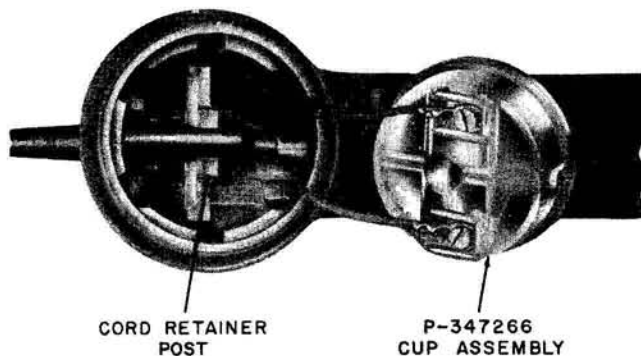
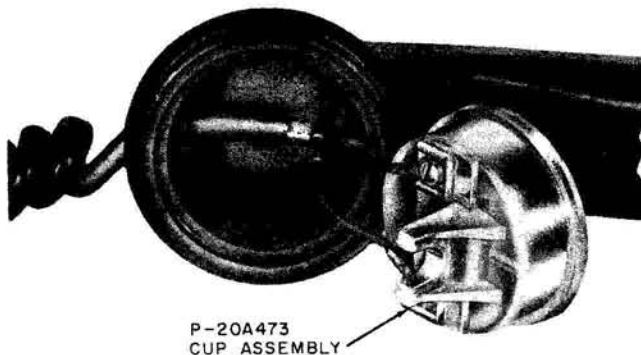

Fig. 6 — Early G3 Handset
Fig. 7 — Current G-type Handset
4.02 Early G-type handsets were equipped with cord retainer posts (Fig. 6). Current G-type handsets contain cord retainer posts molded on the transmitter cup (Fig. 7). These two transmitter cups are not interchangeable.